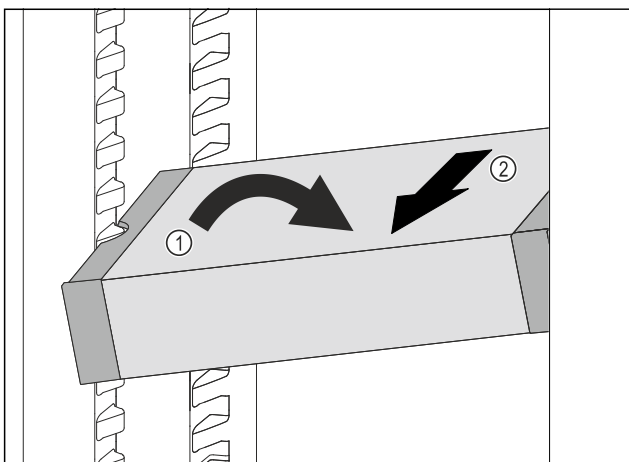

Fig. 88
- ▶ Set VarioSafe in refrigerator compartment at an angle. Fig. 88 (1)
- ▶ Take VarioSafe out to the front. Fig. 88 (2)